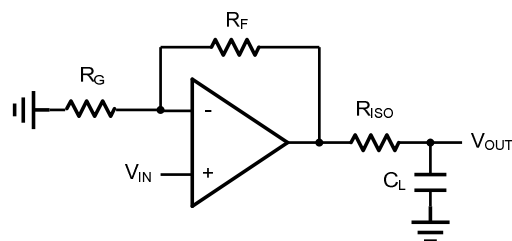
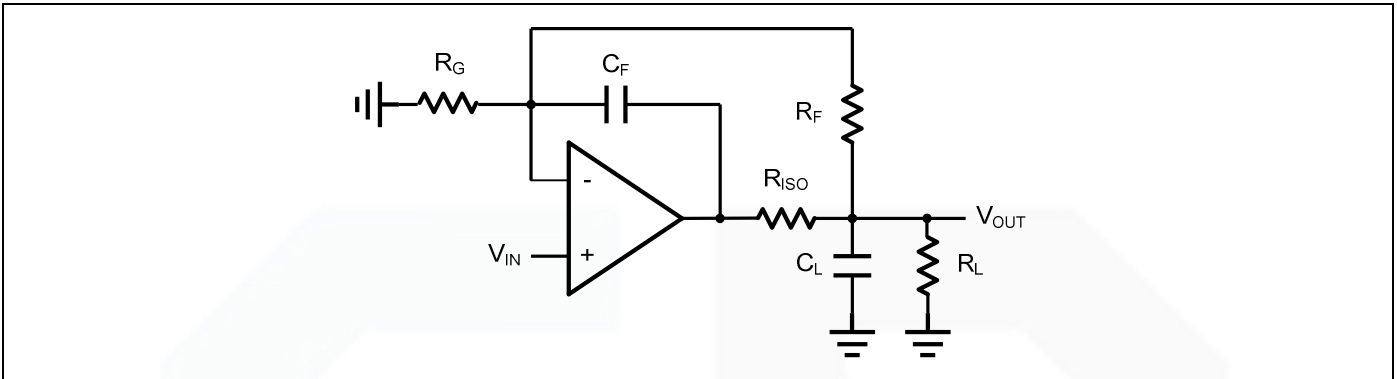

Figure 2. Indirectly Driving a Capacitive Load Using Isolation Resistor
Figure 3. Indirectly Driving a Capacitive Load with DC Accuracy
The GS804X family is optimized for bandwidth and speed, not for driving capacitive loads. Output capacitance will create a pole in the amplifier's feedback path, leading to excessive peaking and potential oscillation. If dealing with load capacitance is a requirement of the application, the two strategies to consider are (1) using a small resistor in series with the amplifier's output and the load capacitance and (2) reducing the bandwidth of the amplifier's feedback loop by increasing the overall noise gain. Figure 2. shows a non-inverting gain circuit using the series resistor strategy. The resistor isolates the output from the capacitance and, more importantly, creates a zero in the feedback path that compensates for the pole created by the output capacitance.
The circuit in Figure 3 is an improvement to the one in Figure 2. R_F provides the DC accuracy by feed-forward the V_{IN} to R_L . C_F and R_{ISO} serve to counteract the loss of phase margin by feeding the high frequency component of the output signal back to the amplifier's inverting input, thereby preserving the phase margin in the overall feedback loop. Capacitive drive can be increased by increasing the value of C_F . This in turn will slow down the pulse response.